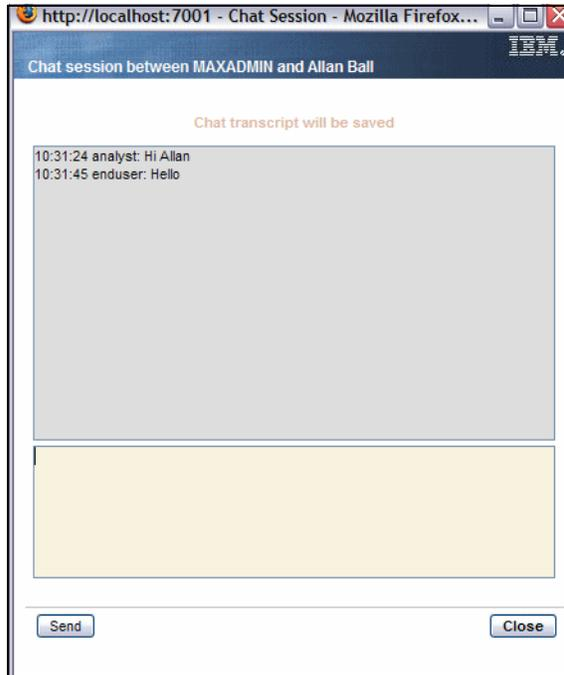

Figure 7-14 Chat window
6. Click the icon to start a Sametime conversation with the user (refer to Figure 7-14 on page 214).